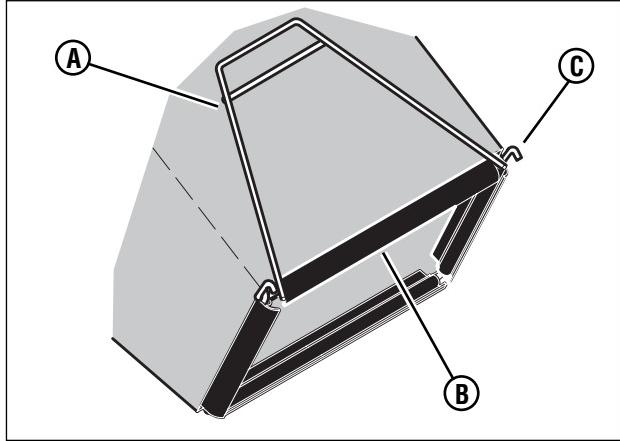

Figure 6: Installing the bag clips
2. Make sure the handle (**A**, **Figure 6**) is on the outside of the grass bag.
3. First, attach the clips (**B**, **Figure 6**) to the side of the frame assembly (**C**). Next, attach the clips to the top and bottom of the frame assembly.